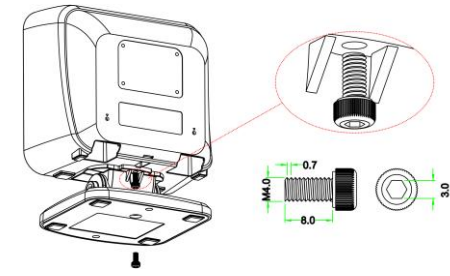

Figure 2-2
2. As shown in Figure 2-2, well connect the image platform with the stand by tightening the single screw.